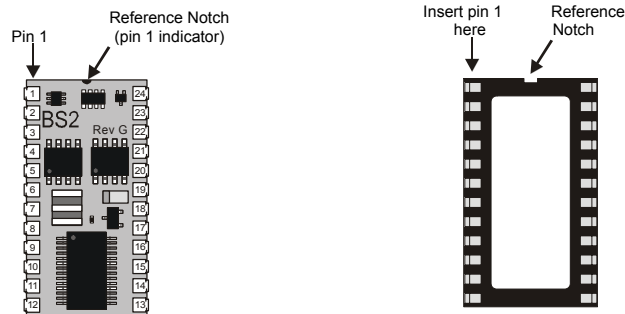
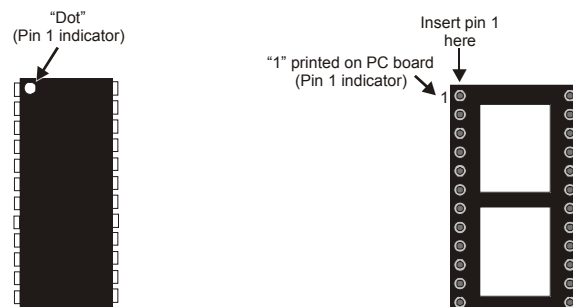

Figure 1.13: Pin 1 Indicators
Figure 1.14: Additional Examples of Pin 1 Indicators
All BS2 series modules have a half-circle indicator on the topside of the module (see Figure 1.13). This indicates that pin number one is the first pin counterclockwise from the notch. The socket that accepts this 24-pin module also
has a half-circle or notch on one end, indicating the correct orientation. See Figure 1.14 for other examples.
- 1) If the BASIC Stamp isn't already plugged into your development board, insert it into the socket. Refer to Figure 1.13 and Figure 1.14 on page 26 to make sure that you orient it correctly. For a complete listing of Parallax development boards for the various BASIC Stamp modules, go to www.parallax.com and look for Development Boards on the Products menu.